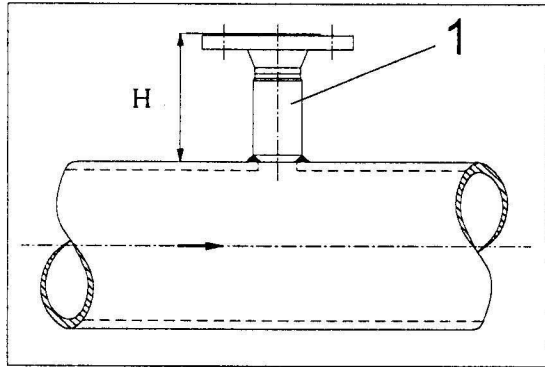

Fig. 10
It is particularly important to make sure that the distance from the gasket surface to the pipe agrees with the H-dimension you gave in your order (Fig.10).
3. Tack the mounting stud { 1 } (supplied with the Flo-Tap) onto the pipe leaving a clearance of 1-2 mm. The bolt holes of the flange must be at 45° angles to the pipe axis (see Fig. 10).
4. Observe the H-dimension during the welding of the mounting stud (see also Fig. 10).